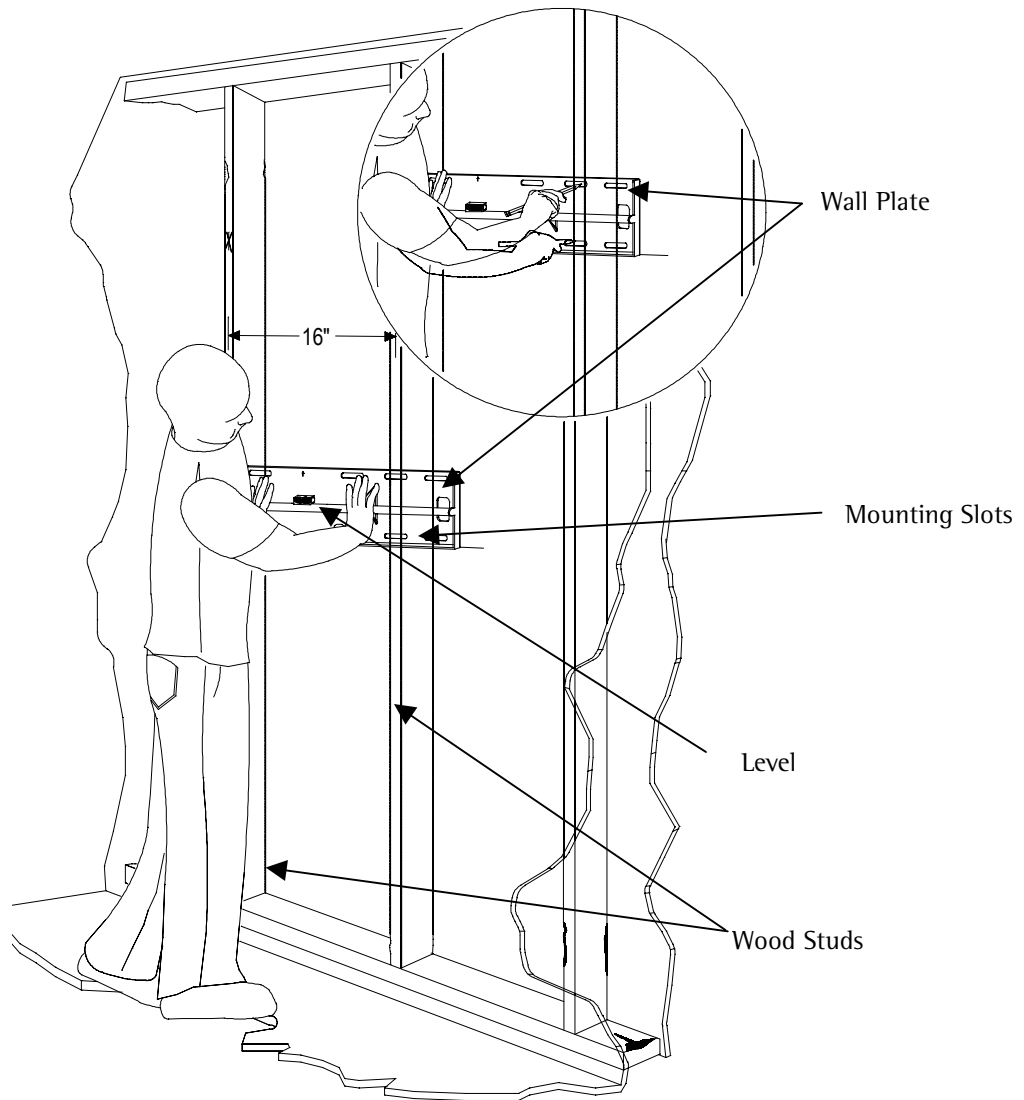

Figure 11. Marking the Mounting Points
1. Place the bottom portion of the wall plate to the reference line and mark the four (4) lag bolt mounting points through the wall plate slots on the wall.
2. Level the wall plate with the reference arrow pointing up to the ceiling (Figure 11).